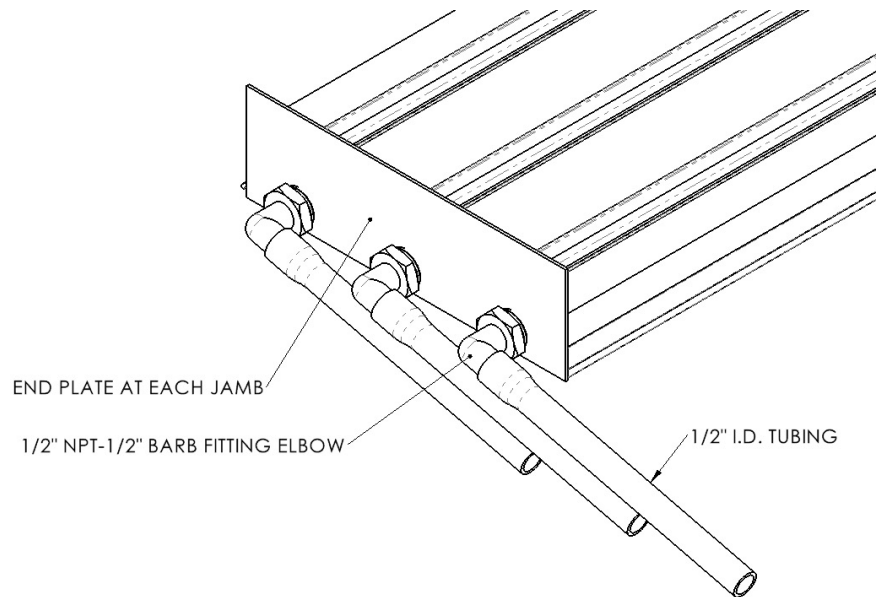

Figure 5
- Side Drain Fitting Sill (See Figure 5)
Screw the 1/2" NPT pipe to 1/2" hose barb fittings (supplied by others) using tread sealant or Teflon tape to the ends of each track. Push fully the 1/2" minimum inside diameter hoses onto the barbed fittings and route to an appropriate drainage location, ensuring that the hoses have a continuous downward slope of at least 1/4" per foot. (See Figure 5). Proceed to step 10.